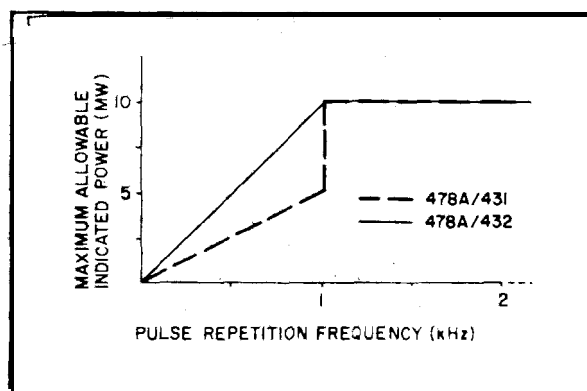

Figure 1. Maximum Power Meter Reading vs PRF for Pulses Shorter than 250  $\mu$ s
14. PULSE ENERGY AND PEAK POWER FOR 478A 432 COMBINATION. For pulses shorter than 250  $\mu$ s, energy per pulse must not exceed 10 W  $\cdot$   $\mu$ s and peak power should never exceed 200 watts. (For example, a 40 mW, 250  $\mu$ s pulse contains 10 W  $\cdot$   $\mu$ s of energy.) Pulses longer than 250  $\mu$ s are allowed to contain more energy but peak power must not exceed 40 mW. Figures 1 and 2 interpret these limits in graphical form. (For lack of space, the mount nameplate lists only a 5 W  $\cdot$   $\mu$ s
15. PULSE ENERGY AND PEAK POWER FOR 478A/431 COMBINATION. The limitations of this combination are basically the same as the 478A 432 with the exception that at pulse repetition rates less than 1 kHz, energy per pulse must not exceed 5 W-U's and peak power must not exceed 10 mW. These limits are also interpreted in Figures 1 and 2.